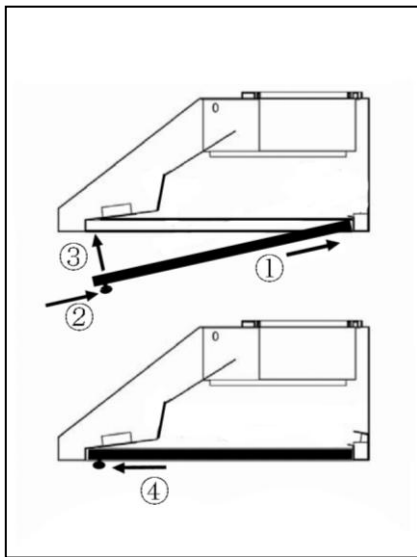

Figure 30
1. Place baffle filters underneath the hood. Refer to Figure 30.